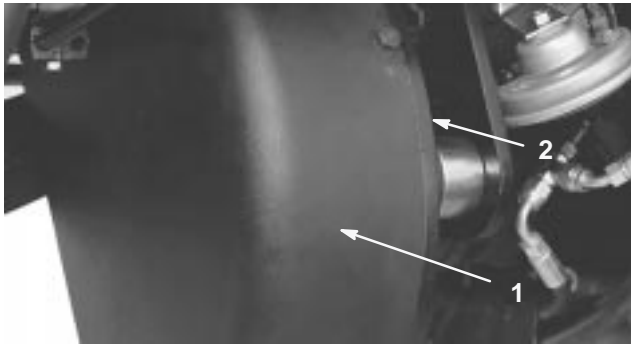

Figure 60
1. Remove 2 screws securing PTO belt cover to adapter plate (Fig. 60) and 1 screw securing belt cover to tab on spring anchor. Remove cover.